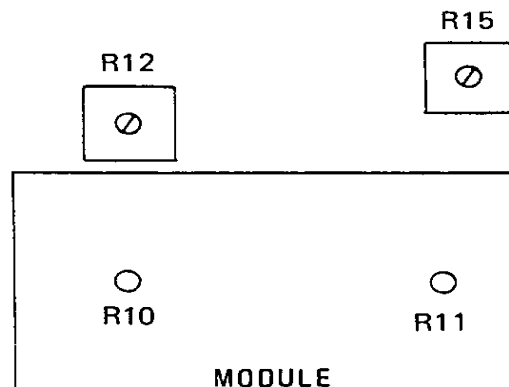

Figure 4-15, Location of R10, R11, R12 and R15
4.5.2.1 Set R12 fully counterclockwise and R10 to its midposition. R10 and R12 are located on the counter PCB as shown in **Figure 4-15**.
4.5.3.1 Set R15 fully counterclockwise and R11 to its midposition. R11 and R15 are located on the counter PCB as shown in **Figure 4-15**.